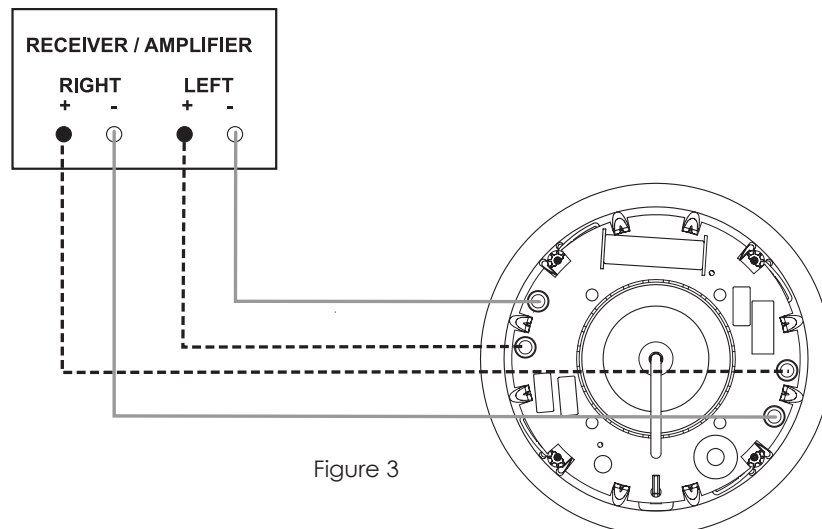

Figure 3
- Hold the speaker up to the cutout and connect the speaker cables. Proper polarity (or phase) is critical for proper stereo imaging and bass performance. Connect the left channel's red(+) terminal of your receiver or amplifier to one of the red(+) terminals of the Invisa loudspeaker and the left black(-) terminal of your receiver or amplifier to the adjacent black(-) terminal of the Invisa loudspeaker. Repeat for the right channel and the other set of connectors on the Invisa speaker. (See Figure 3). Most speaker cables are either color coded or have some indicator (ribbing or writing) on one of the conductors to help maintain this consistent polarity. It is essential that the speaker be connected in the same way (in phase) to its own channel of the amplifier.